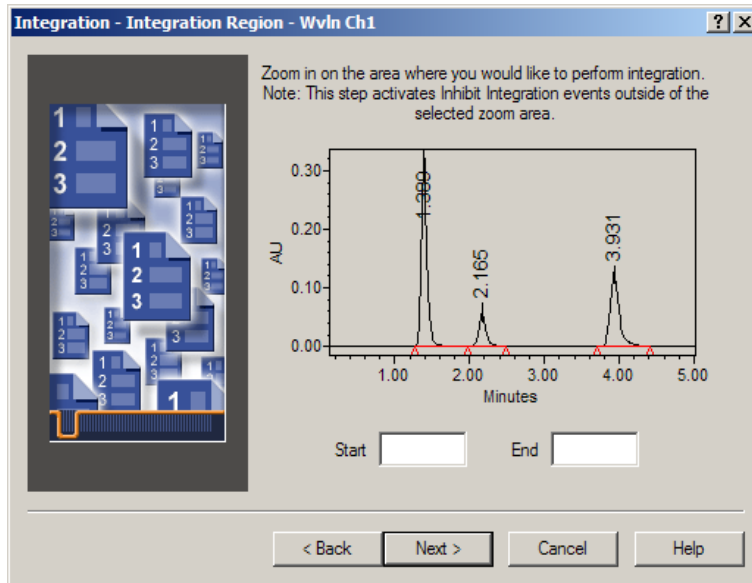

Figure 3-10 Integration - Integration Region Page
7. Click **Next** to go to the Integration - Integration Region page (Figure 3-10).